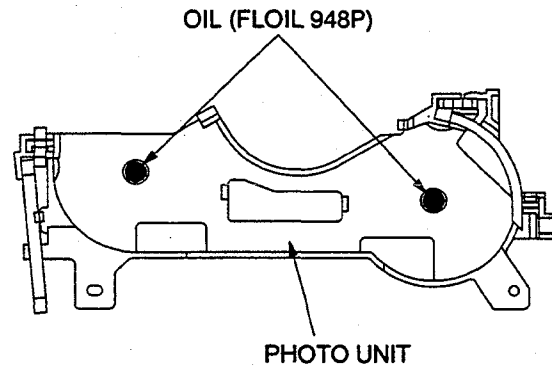

Fig. 2-22-3
5. Apply a small quantity of OIL (FLOIL 948P) [859D154O20] to the area specified in Fig. 2-22-3 on the new PHOTO UNIT.